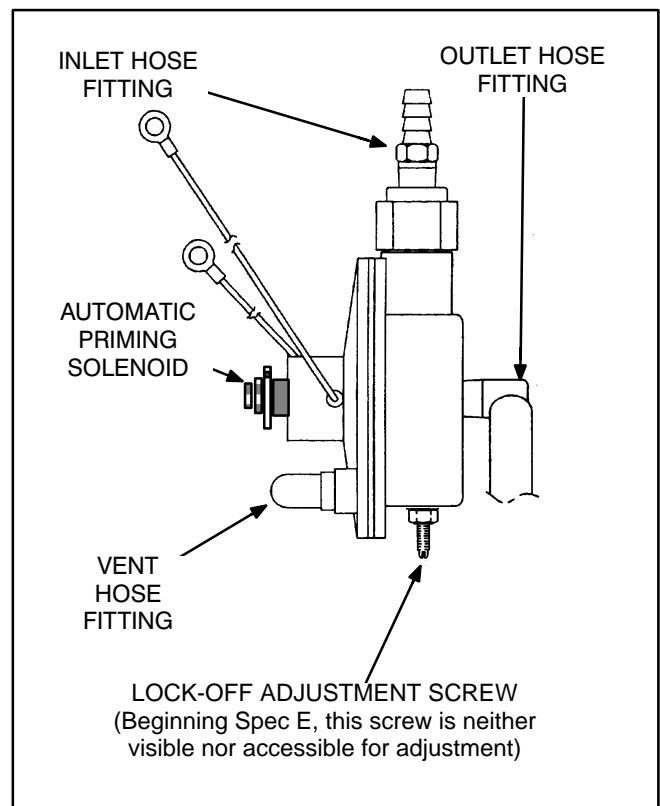

FIGURE 8-18. TOP VIEW OF DEMAND REGULATOR WITH AUTOMATIC PRIMING SOLENOID
See Figure 8-18. The demand regulator assembly supplies fuel to the carburetor. It is usually not the cause of fuel system problems. All other possible causes should be checked out before adjusting or replacing the demand regulator assembly.
1. Connect the regulator inlet (Figure 8-18 on Page 8-22) to a source of air pressure regulated to 11 inches WC (280 mm WC).